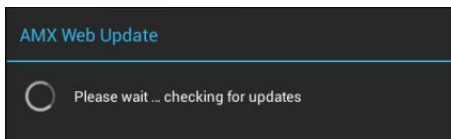

FIG. 97 AMX Web Update - Checking for updates
2. The panel will attempt to connect to AMX and look for any potential/available firmware updates for the platform (FIG. 97):